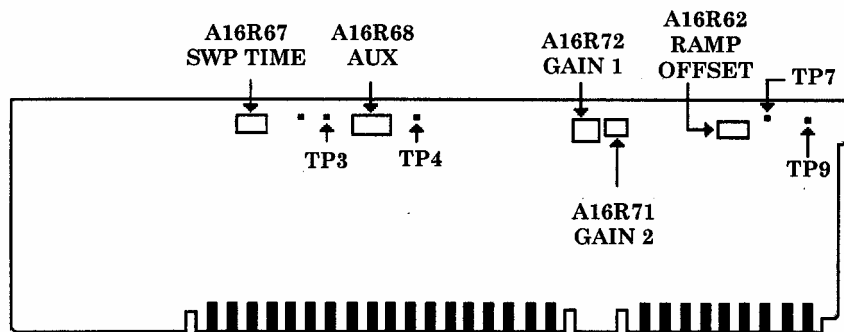
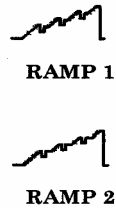
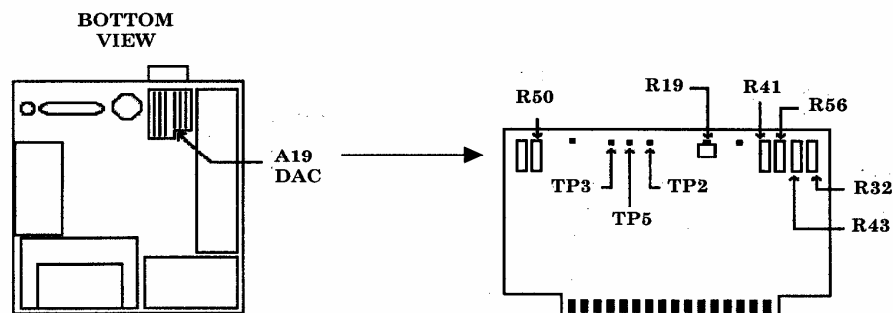
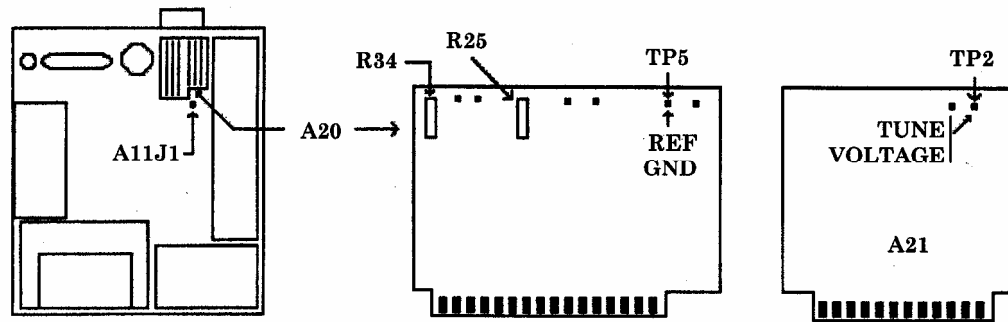

Figure 3. A16 board.
Figure 5. Ramps.
Figure 6. A19 board.
Figure 7. A20 board.
(1) Disconnect TI **RF INPUT** from signal generator No. 3 **RF OUTPUT**.
- (2) Set TI **LINE** switch to **STANDBY**.
- (3) Position TI on its right side.
- (4) Remove TI bottom cover.
- (5) Remove cover over A12 through A16 pc boards.
- (6) Jumper A12TP2 to A12TP3 (lock indicator disable).
- (7) Set TI **LINE** switch to **ON**.
- (8) Press **0 – 2.5 GHz, SWEEP TIME, 500, mS**.
- (9) Connect oscilloscope **Vertical 1** input to TI A16TP3 (fig. 3).
- (10) Connect TI **SWEEP + TUNE OUT** (rear panel) to oscilloscope **Vertical 2** input.
- (13) Disconnect oscilloscope from A16TP3 (fig. 3).
(15) Adjust A16R68 AUX (fig. 3) to align the dc level of the rest time between each ramp with the upper dc level of each ramp. Refer to RAMP 2 (fig. 5).
- (16) Disconnect oscilloscope from A16TP4 (fig. 3).
- (17) Connect multimeter **HI** to A16TP9 and **LO** to A16TP7 (fig. 3).
- (18) Press TI **SWEEP SINGLE** key.
- (19) Adjust A16R62 RAMP OFFSET (fig. 3) for a multimeter indication as close to 0.000 V dc as possible.
- (20) Repeat steps (18) and (19) until requirement is met.
- (21) Press TI keys as listed in (a) through (g) below:
- (22) Connect multimeter **HI** to A19TP2 and **LO** to A19TP3 (fig. 6).
- (23) Press TI **RECALL, 1**.
- (24) Press TI **RECALL, 2**.
- (25) Repeat (23) and (24) above while monitoring multimeter.
- (26) The difference in multimeter indications for **RECALL, 1** and **RECALL, 2** should be < 1 mV dc. Multimeter indications will be approximately -8 V dc.
- (27) If necessary, adjust A19R19 (fig. 6) while alternating between **RECALL, 1** and **RECALL, 2** so that the difference in multimeter indications is < 1 mV dc (R).
- (28) Press TI keys as listed in (a) and (b) below:
- (29) Press TI **RECALL, 1** keys.
- (30) Press TI **RECALL, 3** keys.
- (30) Repeat (29) and (30) above while monitoring multimeter.
- (31) The difference in multimeter indications for **RECALL, 1** and **RECALL, 3** should be < 3 mV dc.
- (32) If necessary, adjust A19R41 (fig. 6) while alternating between **RECALL, 1** and **RECALL, 3** so that the difference in multimeter indications is < 3 mV dc (R).